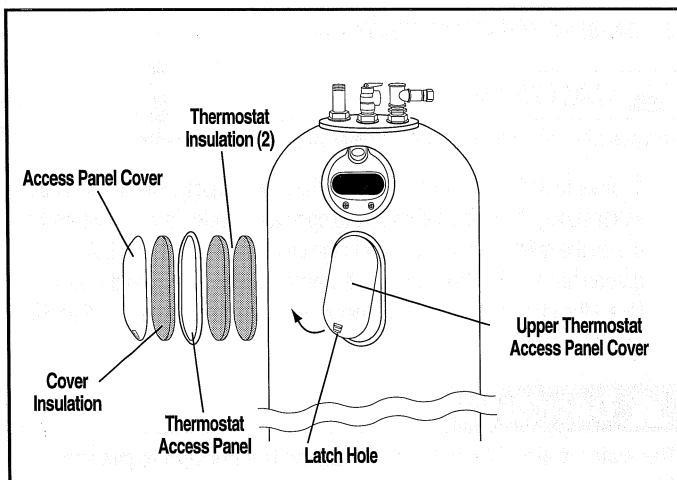
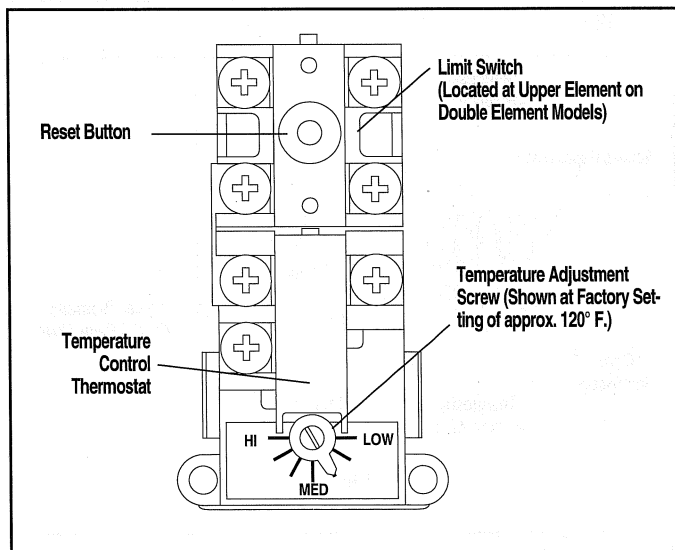

Figure 10 — Removing Upper Thermostat Access panel.
Figure 14 — Upper Thermostat & High Limit Switch
- A. Remove the upper thermostat snap-in access panel cover. Insert finger into latch hole on the bottom of the cover, and push up to release the latch. Then pull forward to remove the cover and insulation. (See figure 10.)
To reset High Limit Switch, **turn off** power to water heater, remove upper jacket access panel and insulation, and the access panel and insulation to expose the Thermostat and High Limit Switch. (Refer to Figure 10.) **The plastic personnel protector SHOULD NOT be removed.** Press the "RESET" button (see Figure 14). Replace insulation and jacket access panel(s) before turning on power to water heater.